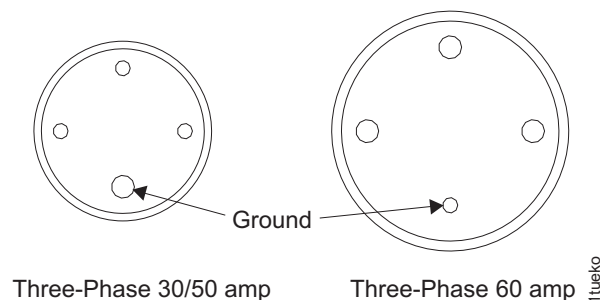

Figure 33. Three-phase amp
4. Measure the resistance between the customer AC power outlet ground pin and the building ground. Refer to Figure 33 for the location of the ground pin. Is the resistance 1.0 ohm or less?